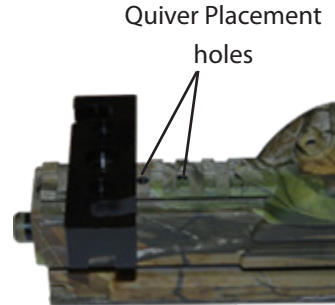

Fig. 1
- Slide the quick detach quiver bracket on the rail. Line up the quick detach quiver bracket with one of two optional quiver placement holes. (**See Figure 1**) Attach with the screw provided.